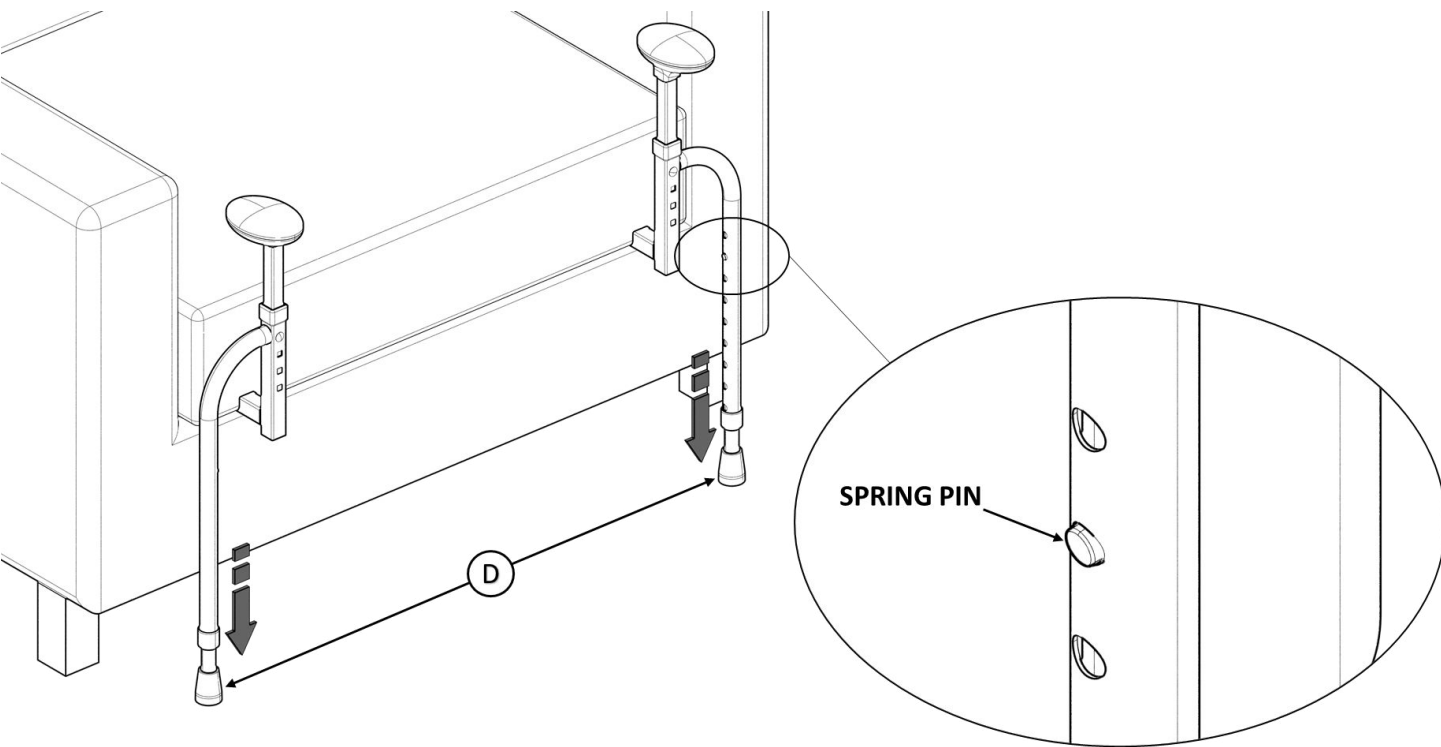

**FIGURE 6**
6. Press **SPRING PIN** in and pull **D** to the floor as shown in *FIGURE 6*. Make sure the **SPRING PIN** engages when in desired position.